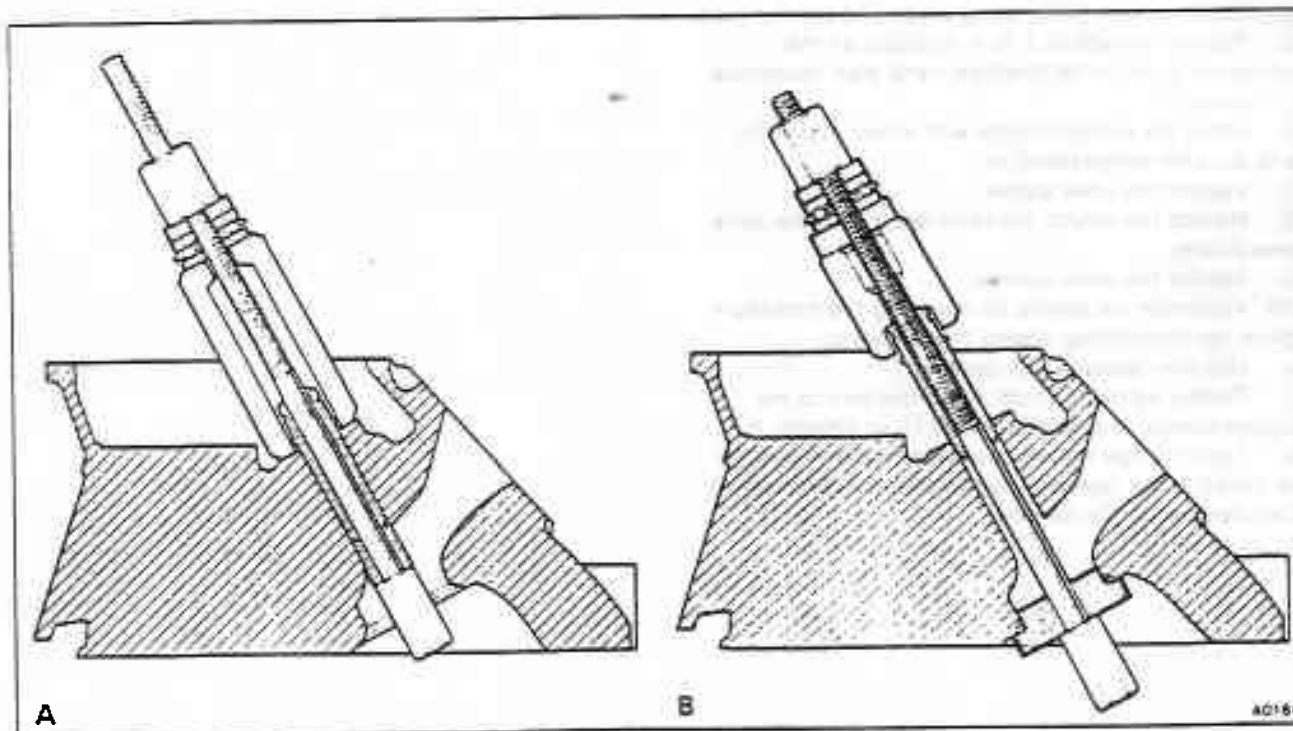

Fig. EB-4 Valve guide renewal using RH 7207
3. Remove the valve guides as shown in figure EB-4. Withdraw the guides from the top (rocker side) of the cylinder head using the special tool RH 7207.
3. Using the special tool RH 7207 assembled as shown in figure EB-4, draw the valve guides into the cylinder head from the top (rocker side). Ensure that the shoulder of the guide abuts the cylinder head.